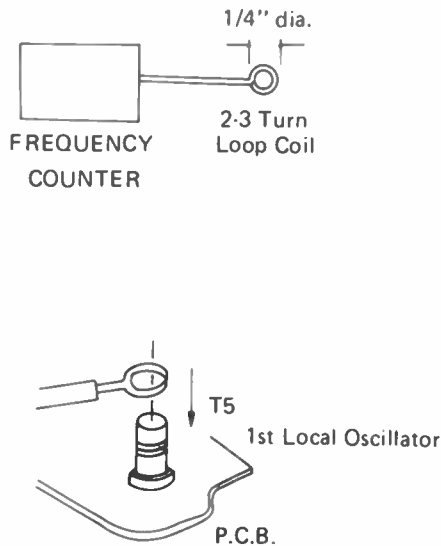

Figure 6. 1ST LOCAL OSCILLATOR
Step 2 : Couple the frequency counter thru a pick-up coil to oscillator coil T5. Refer to Figure 6.